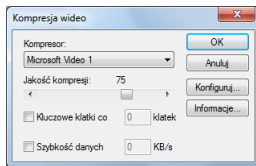

Fig. 314 – selecting codec
- in the next step – if it is the first time that an AVI file is saved to the disk after running CAD Kitchens program – it is necessary to select the codec (Fig. 314);